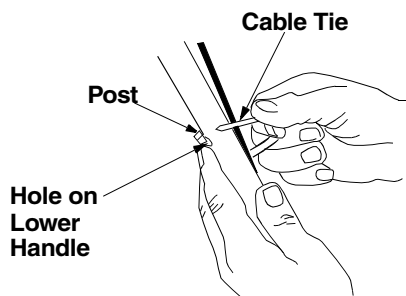

Figure 6
- Insert post on cable ties into holes provided on the lower handle. Pull the cable tie tight and trim the excess. See Figure 6.